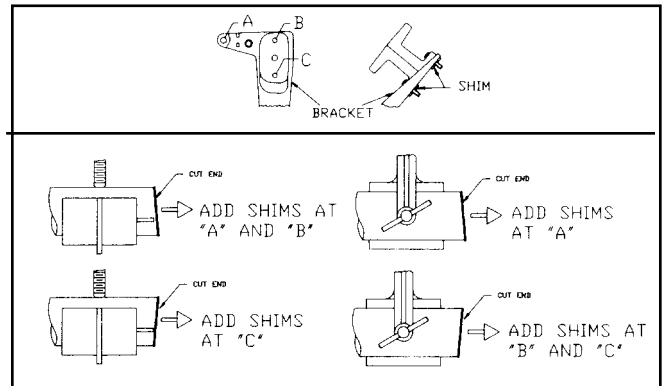

Figure 9
**NOTE!** It may be necessary to add shims (see Figure 9) between the bracket and the saw to produce a 90° cut. See the following instructions: Shim washers are supplied in the hardware package.